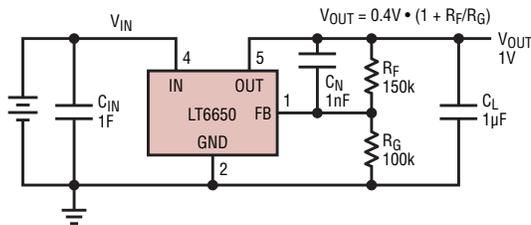

Figure 3. Battery powered pocket voltage reference runs for years on a coin cell.
The unique pocket reference shown in Figure 3 can operate for years on a pair of AAA alkaline cells or a single Lithium coin-cell, as the circuit draws just 10µA supply current. An input capacitor of 1µF as shown should be used when the LT6650 is operated from small batteries or other sources
The minimum allowable gain resistor value is 2kΩ established by the 400mV FB pin voltage divided by the maximum guaranteed 200µA output current sourcing capability. In applications that scale the reference voltage, intrinsic noise is amplified along with the DC level. To minimize noise amplification, a 1nF feedback capacitor (CN) as shown in Figure 3 is recommended. Any net load capacitance of 1µF or higher assures amplifier stability.